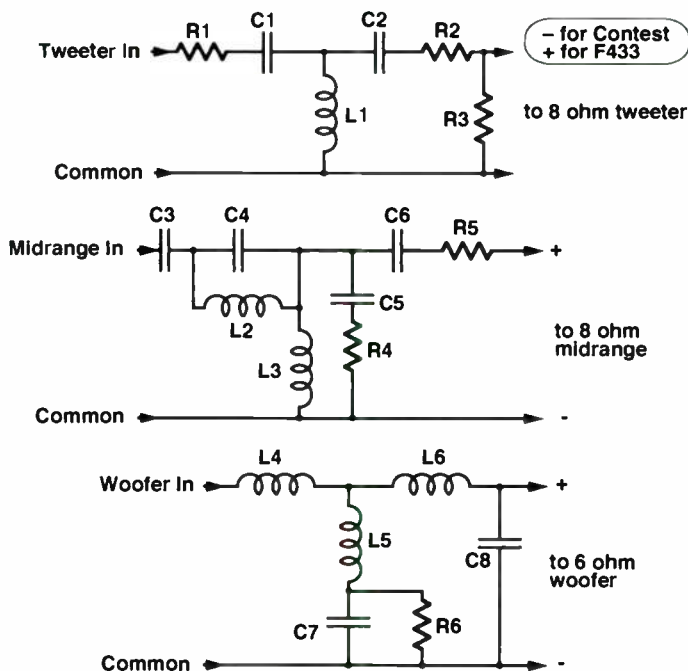

FIGURE 1: Crossover schematic.
43. Two pieces of ¼" tempered hardboard serve well as component boards. Lay out the CO parts to see how big an area you need, then cut the boards to size. Leave enough room at each corner for mounting screws. Fasten the components and the barrier strips to the board with hot glue, then solder all the components according to the schematic diagram (*Fig. 1*). Coils set on edge to